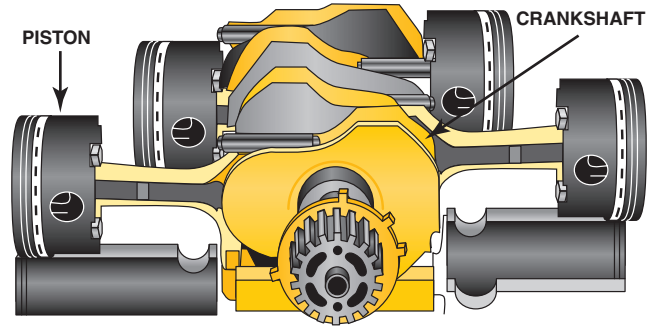
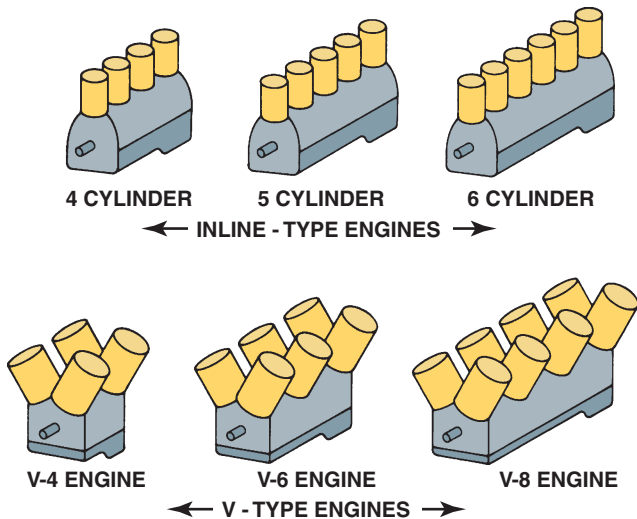

FIGURE 10-8 A horizontally opposed engine design helps to lower the vehicle's center of gravity.
FIGURE 10-7 Automotive engine cylinder arrangements.
- **Cylinder arrangement.** An engine with more cylinders is smoother operating because the power pulses produced by the power strokes are more closely spaced. An inline engine places all cylinders in a straight line. The 4-, 5-, and 6-cylinder engines are commonly manufactured inline engines. A V-type engine, such as a V-6 or V-8, has the number of cylinders split and built into a V shape. ● **SEE FIGURE 10-7.** Horizontally opposed 4- and 6-cylinder engines have two banks of cylinders that are horizontal, resulting in a low engine. This style of engine is used in Porsche and Subaru engines, and is often called the **boxer** or **pancake** engine design. ● **SEE FIGURE 10-8.**